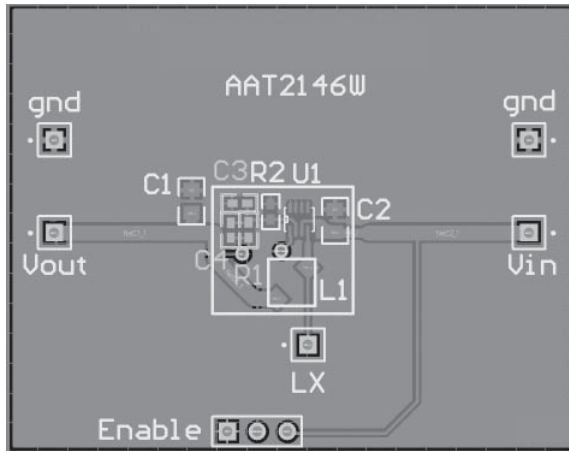

Figure 2: AAT2146W Evaluation Board Component Side Layout.
1. See figure 2 for the application test circuit.
The proper placement of the input capacitor (C2) can be seen in the evaluation board layout in Figure 2.
The suggested PCB layout for the AAT2146W is shown in Figures 2, 3, and 4. The following guidelines should be used to help ensure a proper layout.